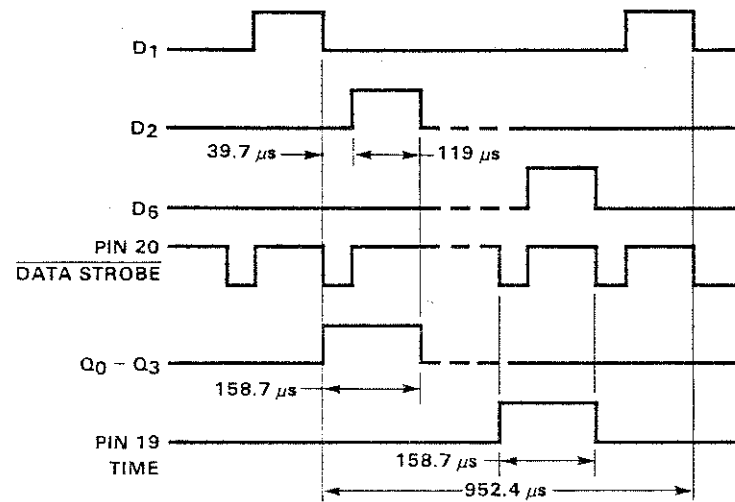

Fig. 4
3. Connecting IN₃ and D₃ causes the clock to be displayed continuously. Both AM and PM are active only during the clock and alarm (12-hour display) display presentations. See Figure 4 for FCM7002 TIME (pin 19) output conditions during other than clock display.
Pin 19 is valid during D₆ time as shown in Figure 4. This output is only present when data other than clock (calendar, alarm or clock radio) is being displayed. Pin 20 is an active LOW data strobe which is present every digit-blanking time. See Figure 4. Pin 21 is not connected. Low voltage detection is the same as the FCM7001 except the indication is A₁ and A₈ outputs are HIGH.